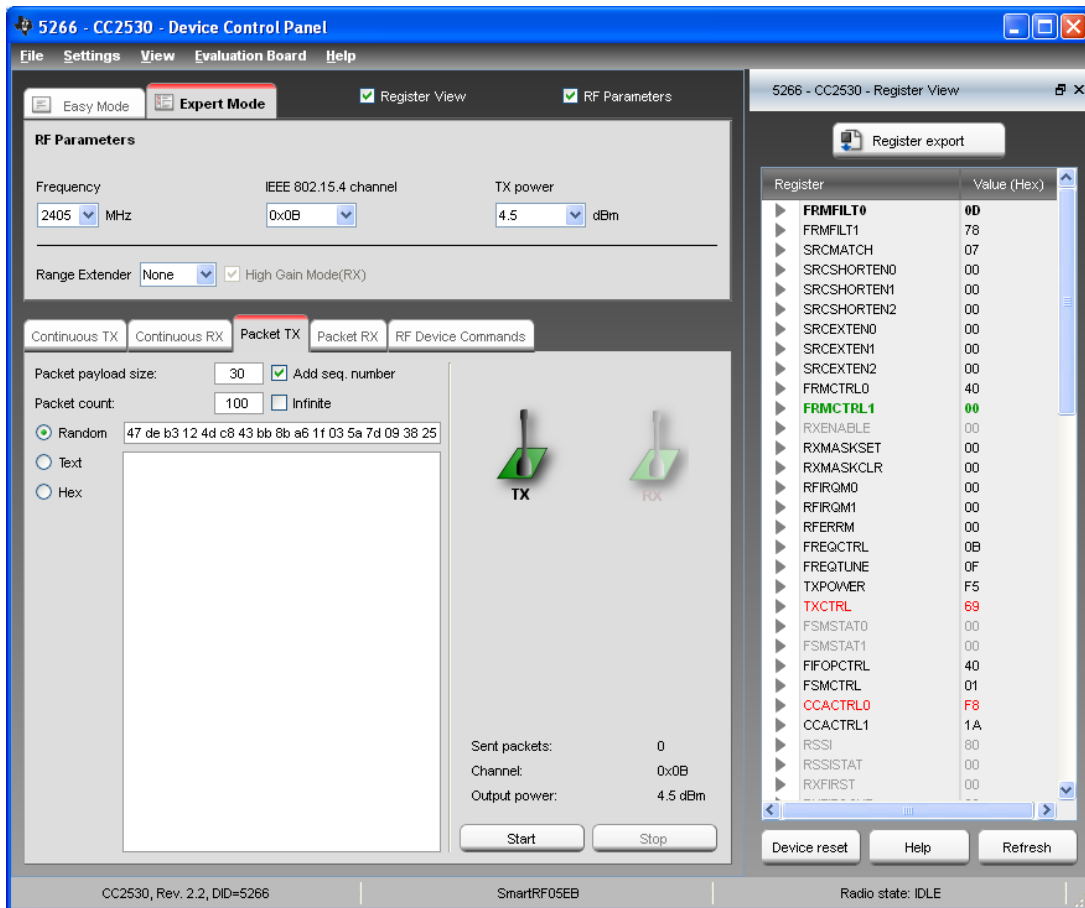

Figure 4 - CC2530 control panel in SmartRF Studio
Figure 4 shows the main control panel for the CC2530. It lets you perform a number of operations:
- Select one device to be the transmitter, by selecting the “Packet TX” tab shown in the lower middle of Figure 4.